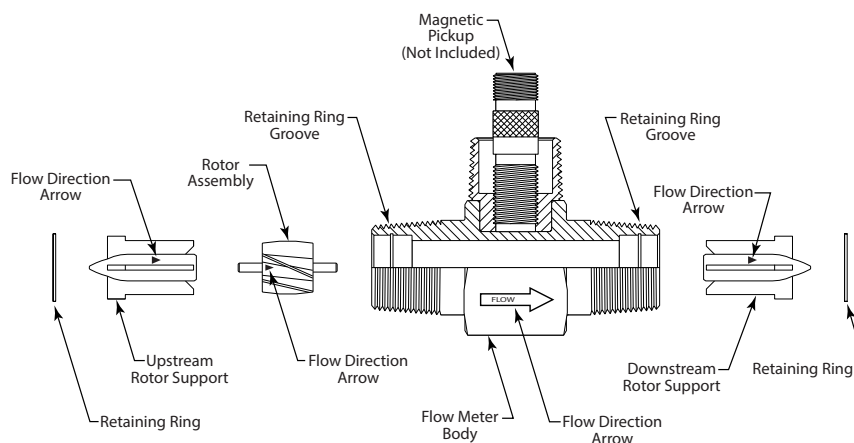
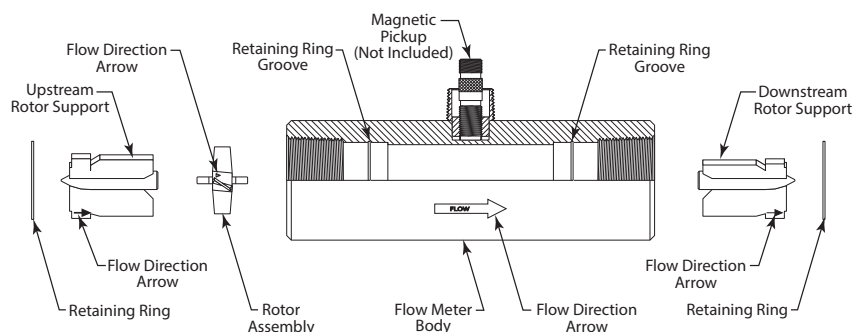
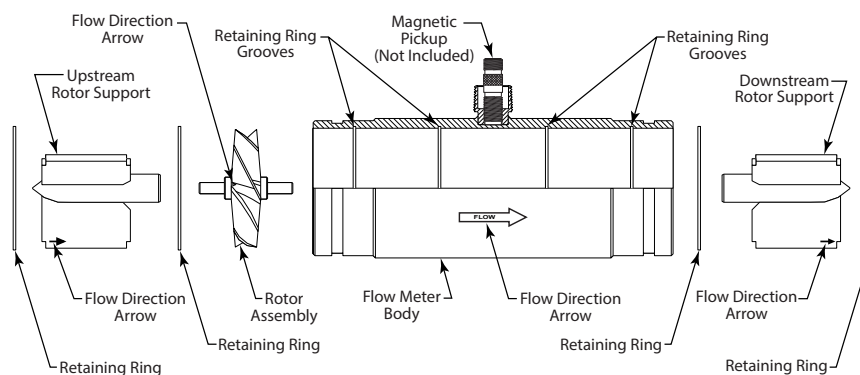

Figure 7: Component positions for B110C-375...B111C-115 and B111C-121
Figure 8: Component positions for B111C-120 and B111C-130
Figure 9: Component positions for B111C-140 and B111C-200
1. Refer to Figure 7, Figure 8 and Figure 9 for relative positions of repair kit components.
NOTE: 4 in. and larger meters have two retaining rings (one on either side of the rotor) that require removal before the rotor can be removed (see Figure 9).
Before reassembly, note that an arrow is cast or engraved on each component. The arrow indicates the primary flow direction. When reassembled, the arrowheads must point in the direction of the fluid flow. The arrows must also be oriented in the up position on both rotor supports. The magnetic pickup side of the body signifies the up position. Performance of repair kit calibration is in the up position. Reinstallation of the repair kit in the up position ensures continuation of accurate measurements. Figure 7, Figure 8, and Figure 9 show the proper alignment and orientation of the repair kits.
NOTE: 4 in. and larger meters have a retaining ring at both ends of the rotor (see Figure 9).